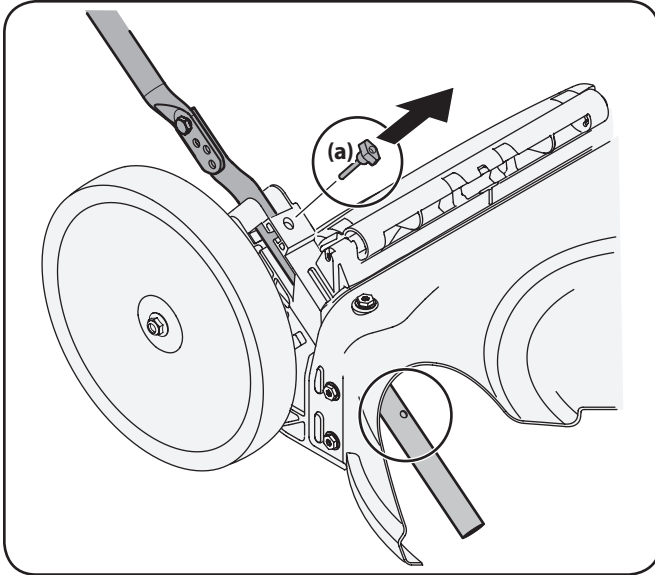
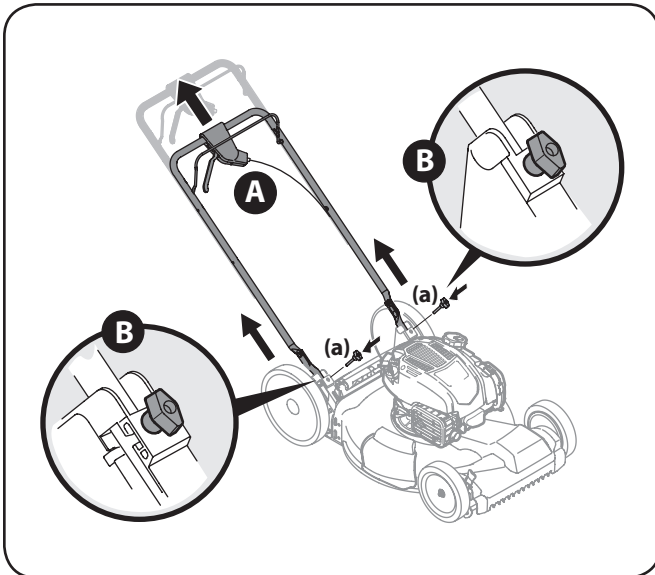

Figure 3-3
Figure 3-4
- Remove the T-bolts (a) from the handle brackets as shown in Figure 3-3.
- Pull upward on the handle until holes in lower handle (shown in Figure 3-3 deck cutaway) line up with holes in handle bracket. See Figure 3-4.
- Insert the T-bolts (a) removed in Step 4 through the handle brackets and lower handle and tighten securely to secure the handle in place. See Figure 3-4.